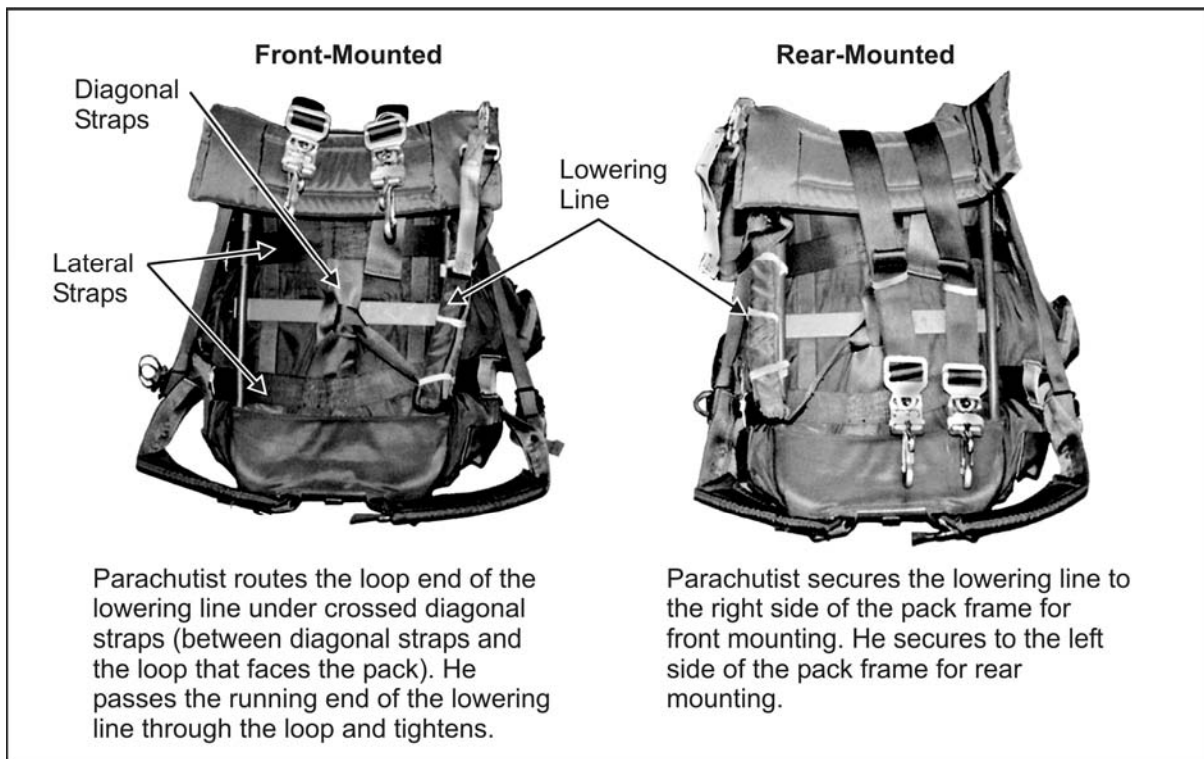

Figure 5-8. Attaching the Lowering Line to the Combat Pack
- Passes the running end of the lowering line through its own loop and tightens it (Figure 5-8, page 5-11).